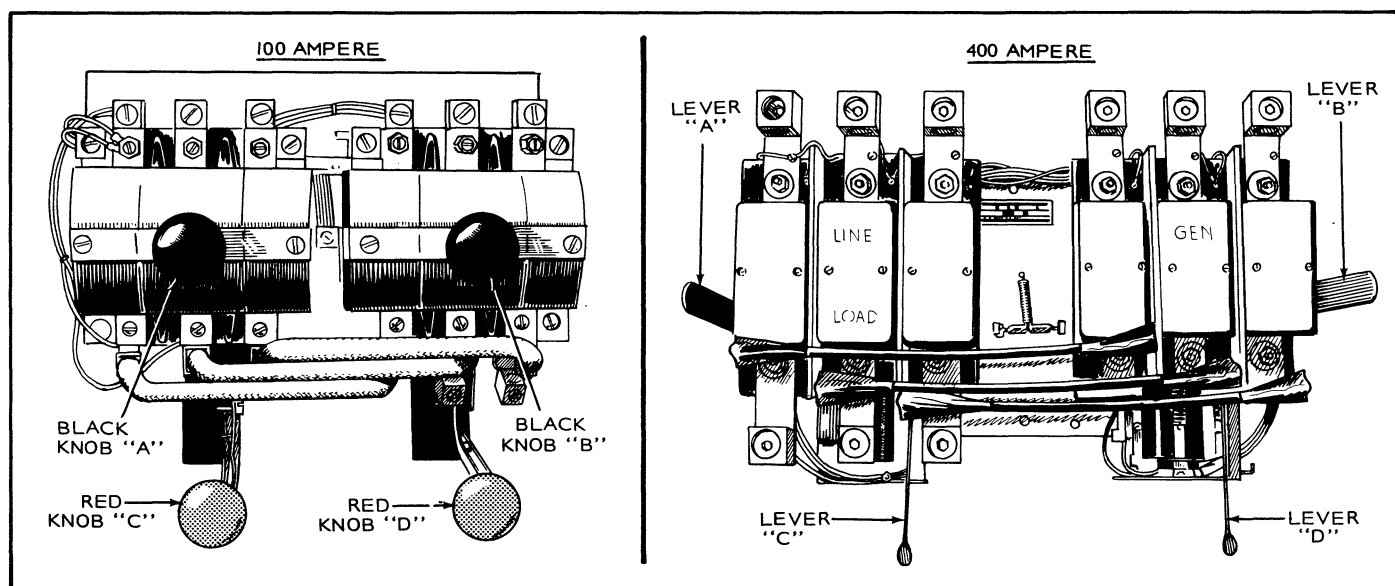

FIGURE 12. TRANSFER SWITCH MANUAL OPERATORS
Figure 12 shows a 100- and 400-ampere transfer switch with manual operators. Use the following appropriate instructions either for 30- through 225-ampere switches or 400-ampere switches.
Refer to the 100-ampere transfer switch shown in Figure 12. If the transfer switch is closed on line side, push in the lower, left red knob (C) to release the line-side mechanical latch. When you hear the contacts open, push in the upper, right black knob (B) to close the generator-side contacts.
If the transfer switch is closed on line side, push in the lower left lever (C) to release the line-side mechanical latch. Put on the handle extension and then push up the black handle (B) on generator side of the transfer switch (Figure 12).